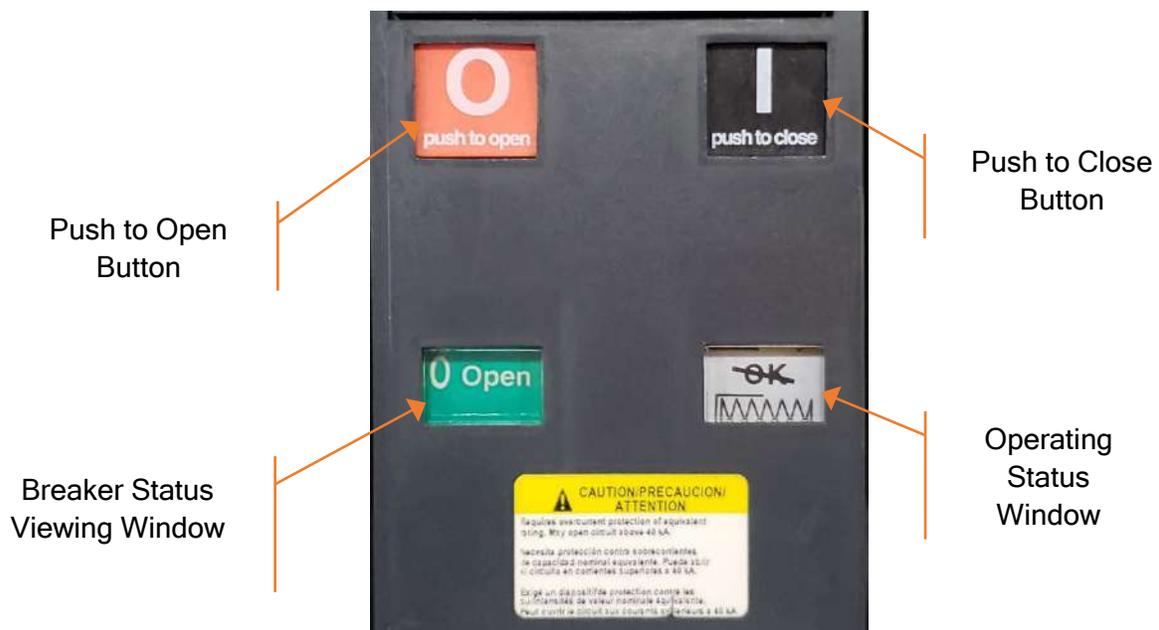

Figure 1 - Breaker Operators & Status Viewing Window
**NOTE:** The viewing windows of different breaker manufacturers vary. Figure 1 shows an example of what to look for.